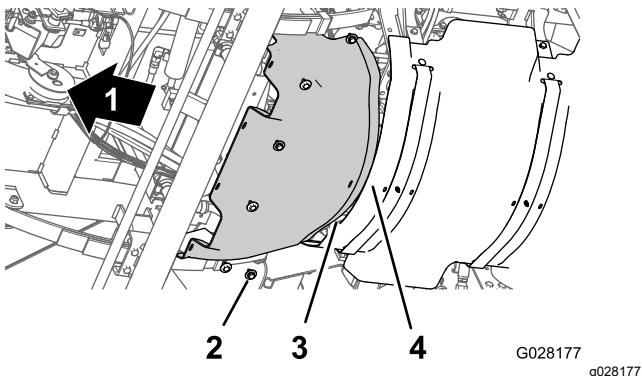

Figure 61
1. Align the rear flange of the forward heat shield over the forward flange of the rear heat shield (Figure 61).
2. Align the holes in the forward heat shield with the threaded holes in the chassis (Figure 61).
3. Assemble the forward heat shield to the machine with the 6 hex-head bolts and 6 washers (Figure 61) that you removed in step 3 of Removing the Forward Heat Shield \(page 51\).